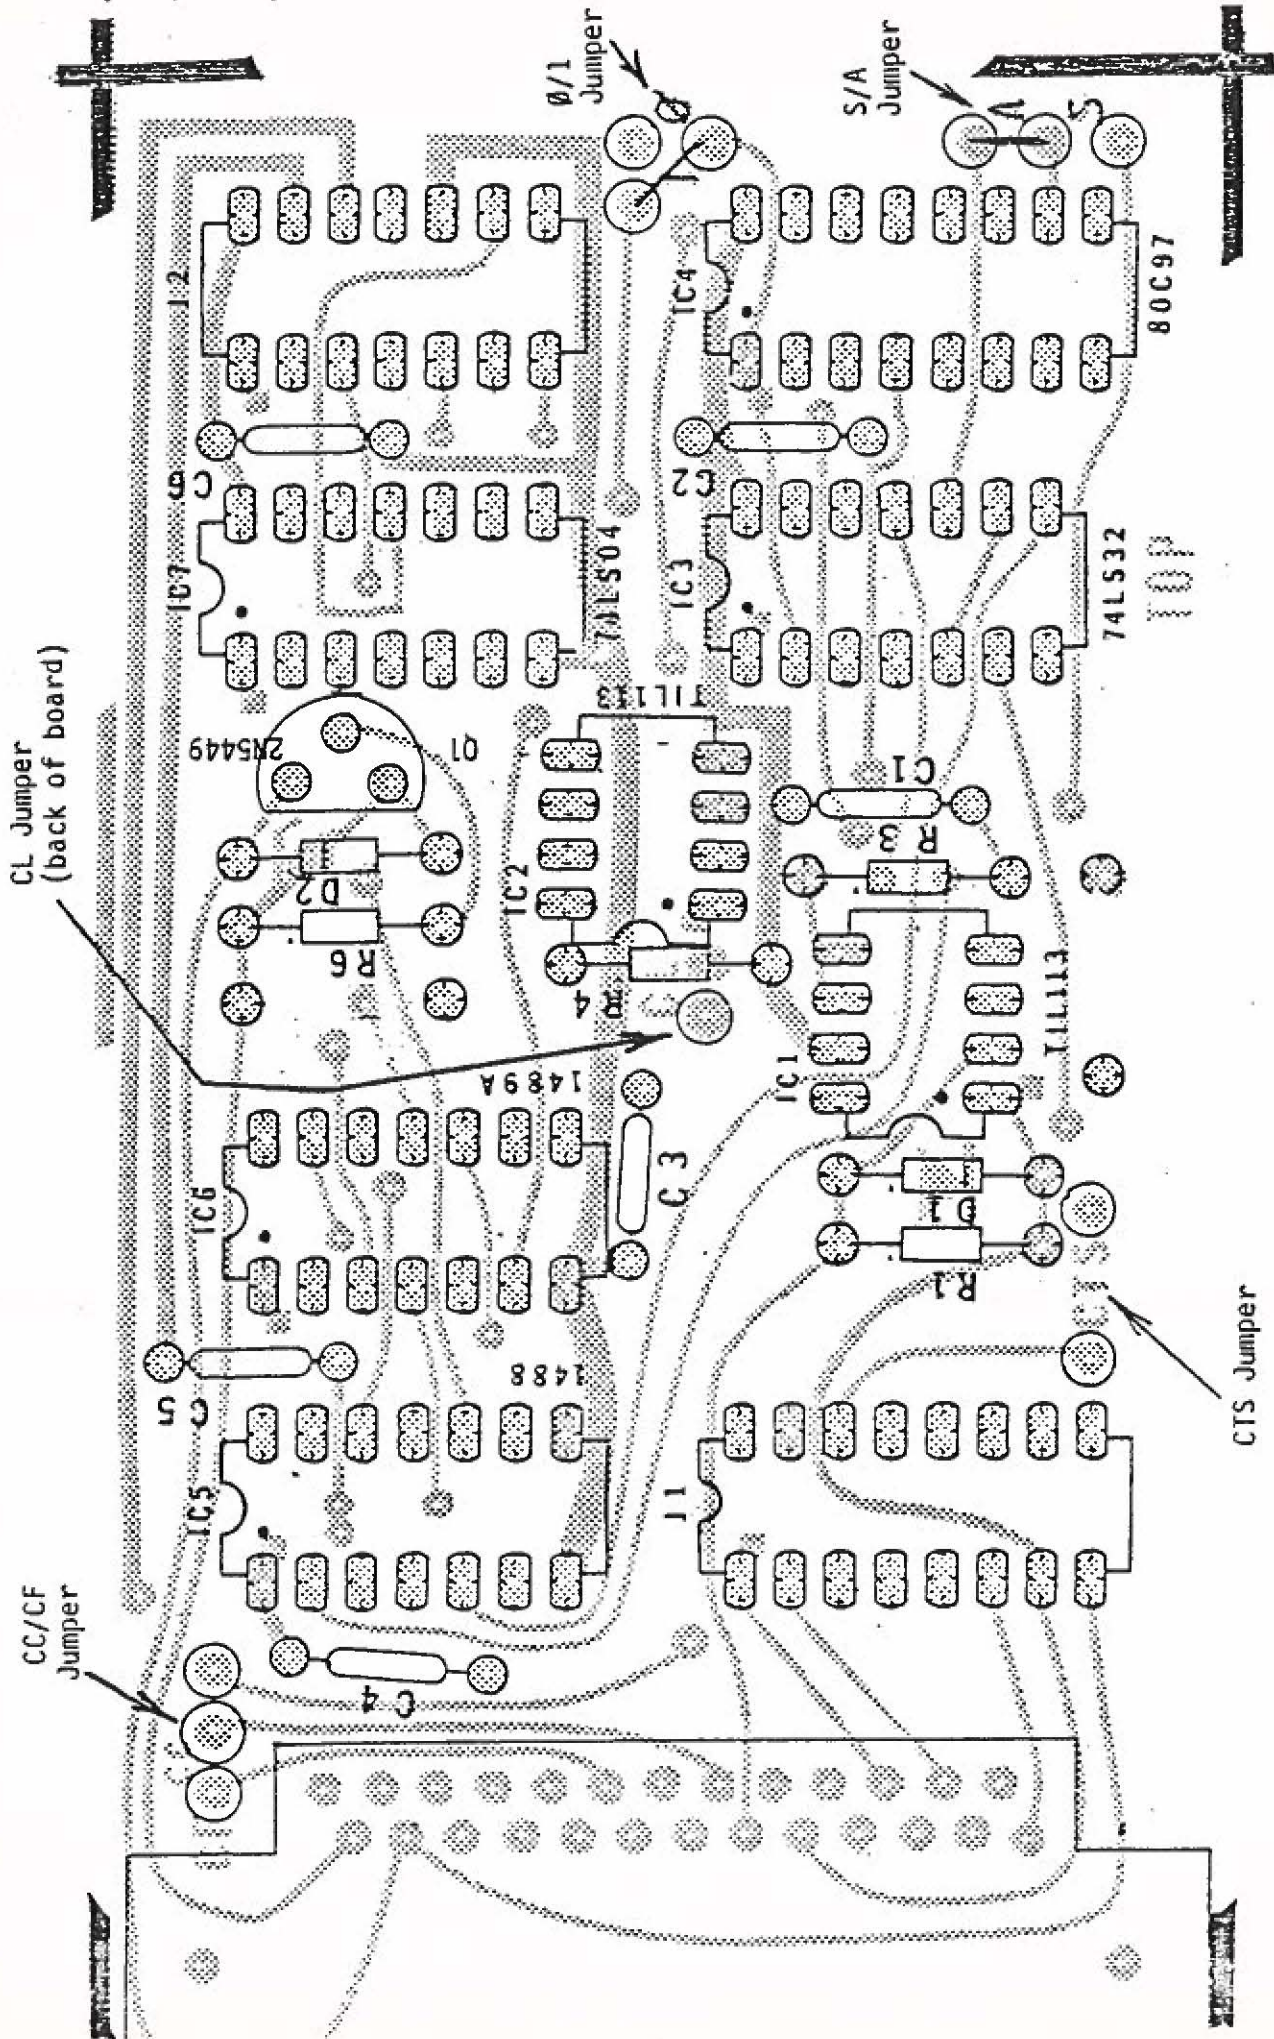

Figure A-5
1. Install all resistors; refer to the parts layout (fig. A-5).
( ) Note the circled pads in the S/A area on figure A-5. Install a wire jumper from the middle hole to the bottom hole (A).\*
( ) Note the CL area in figure A-5. These two pads must be jumpered together. One pad is concealed by R4; jumper on the back of the board.
( ) Note the circled pads in the S/A area on figure A-5. Install a wire jumper from the middle hole to the bottom hole (S).